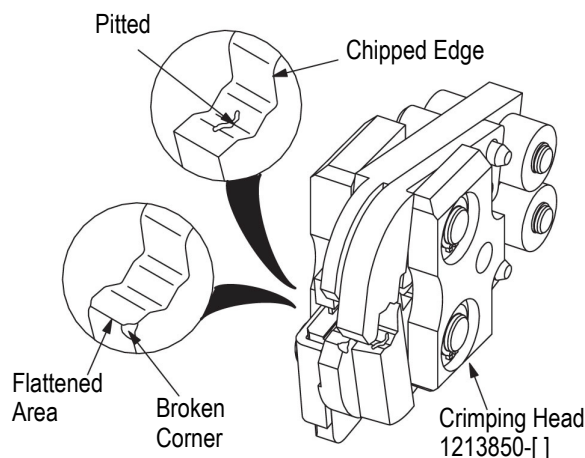

Figure 7
3. Inspect the crimp area for flattened, chipped, or broken areas. See Figure 7. Replace worn or damaged parts.